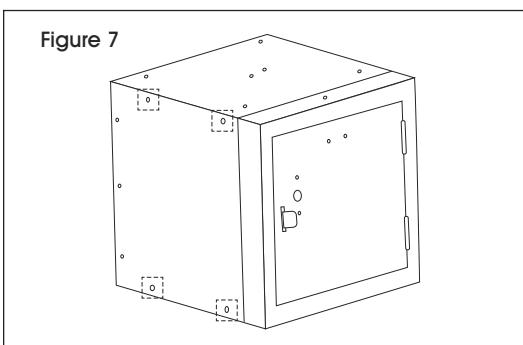

Figure 7
3. If joining units side by side, bolts will go through holes in adjoining side panels in both lockers. Secure bolts with nuts. (See Figure 7)